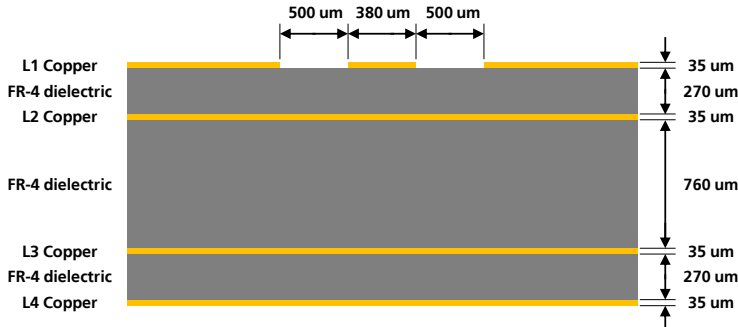
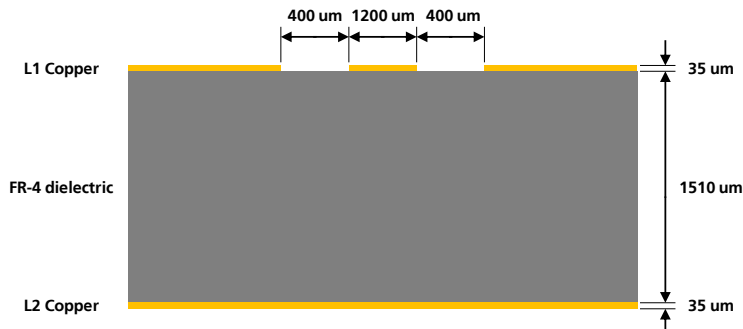

Figure 38: Example of 50 Ω coplanar waveguide transmission line design for the described 4-layer board layout
Figure 39: Example of 50 Ω coplanar waveguide transmission line design for the described 2-layer board layout
Figure 38 and Figure 39 provide two examples of proper 50 Ω coplanar waveguide designs. The first transmission line can be implemented in case of 4-layer PCB stack-up herein described, the second transmission line can be implemented in case of 2-layer PCB stack-up herein described.
- the thickness of the transmission line itself (e.g. 35 μm in the example of Figure 38 and Figure 39)
- the thickness of the dielectric material between the top layer (where the transmission line is routed) and the inner closer layer implementing the ground plane (e.g. 270 μm in Figure 38, 1510 μm in Figure 39)
- the dielectric constant of the dielectric material (e.g. dielectric constant of the FR-4 dielectric material in Figure 38 and Figure 39)
- the gap from the transmission line to the adjacent ground plane on the same layer of the transmission line (e.g. 500 μm in Figure 38, 400 μm in Figure 39)